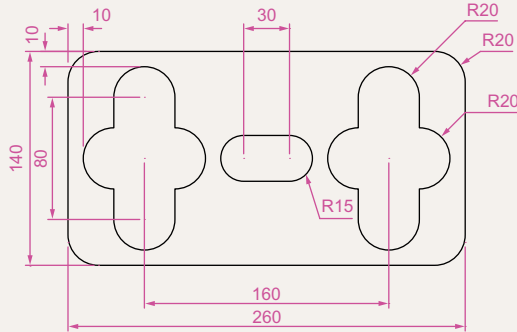

Fig. 5.48 Exercise 3
3. Using the tools **Polyline**, **Circle**, **Trim**, **Polyline Edit**, **Mirror** and **Fillet** construct the drawing (Fig. 5.48).